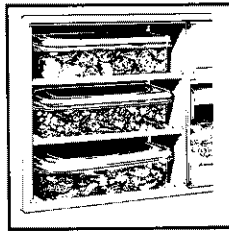

FIGURE 83
**Food Storage Containers.** Some models feature three durable leftover containers. See Figure 83. They store conveniently in this compartment and slide out for easy access. Containers are microwave\* and dishwasher safe. (Always place in the top rack of dishwasher).